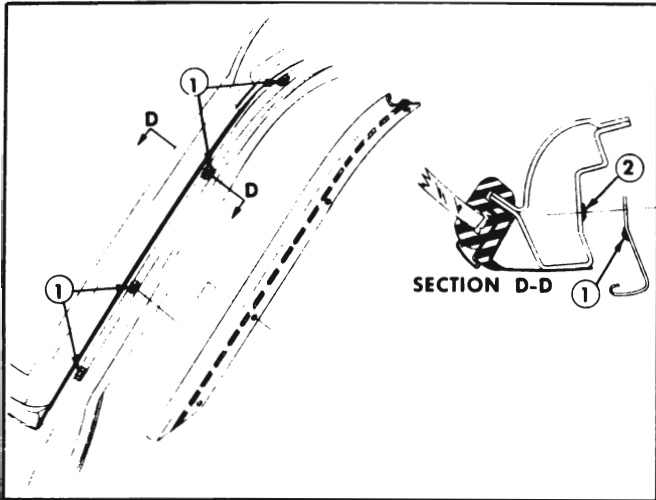

Figure 13-9—Windshield Pillar Drip Molding Sealing
2. To install, apply medium-bodied sealer to screw attaching holes as indicated by #1 and to drip molding as indicated by #2 in Figure 13-9 and reverse removal procedure.